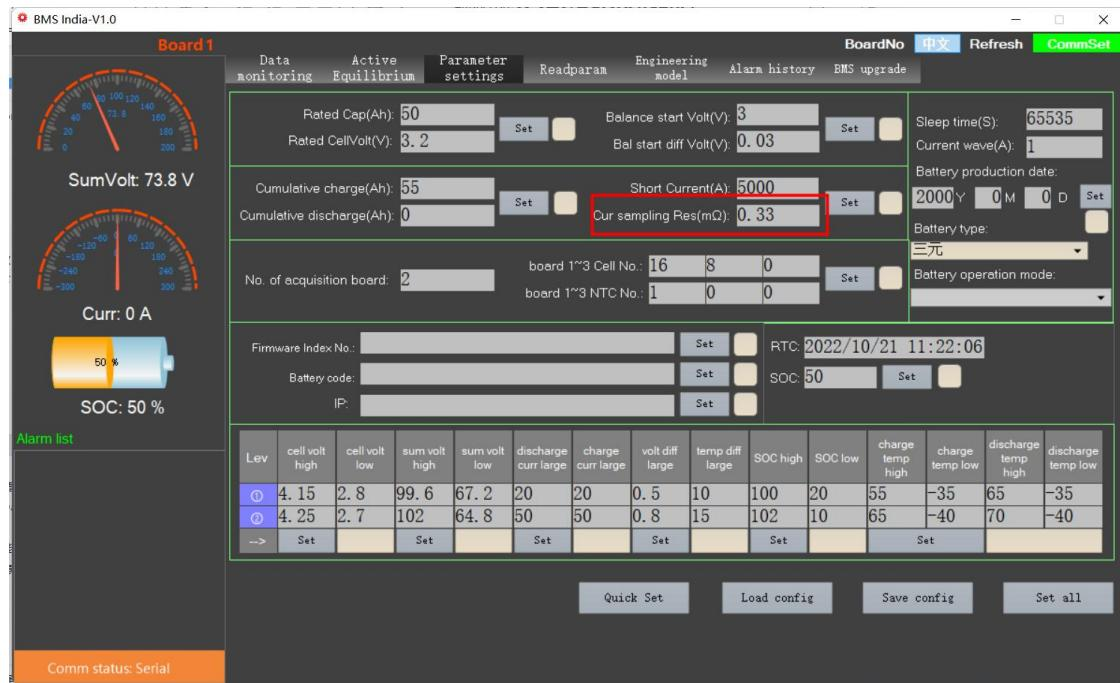

Figure 2-21 Setting the current sampling resistor of the BMS
- (1) Set the current sampling resistor of the protection board in the parameter setting panel. **Figure 2-21**.
- (2) When the battery is not connected to the charger and load, click "Current 0A Calibration".